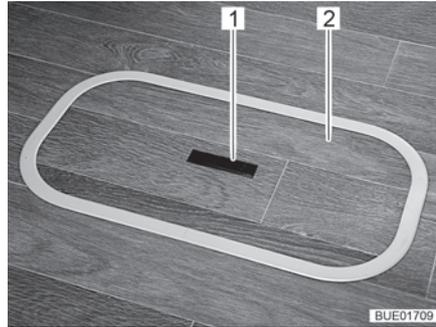
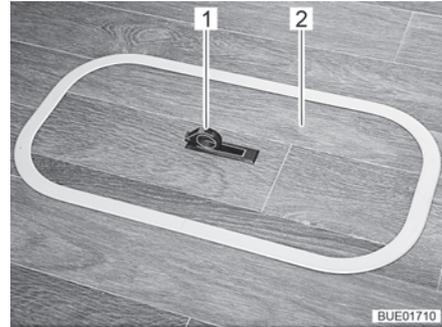

Fig. 75 Floor compartment cover
Fig. 76 Floor compartment cover
- Push one side of the grip plate (Fig. 75,1) downwards. The handle (Fig. 76,1) swivels upwards.
- Remove the cover (Fig. 75,2 or Fig. 76,2) upwards.